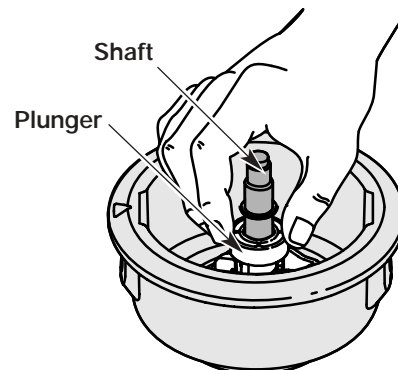

Fig. 46
5. Clean the shaft and the inner surface of the outer spool. To clean the shaft underneath the plunger, press down on the plunger (Fig. 46). Remove any dirt or debris from the shaft.